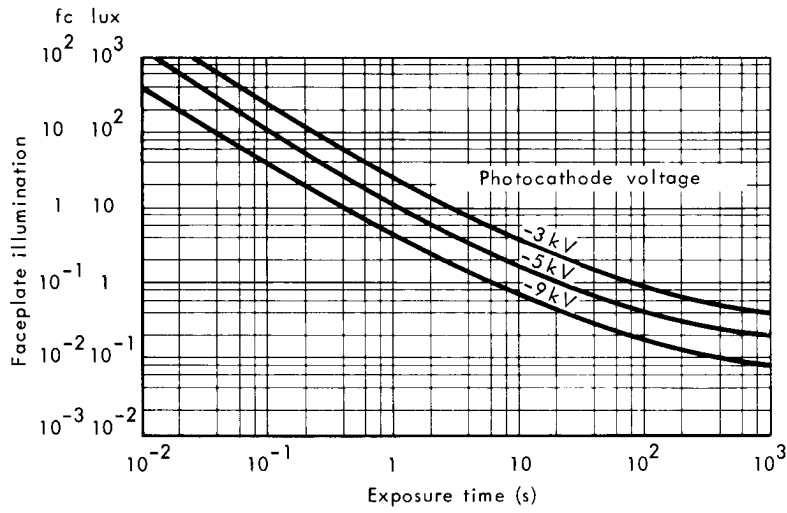

Fig. 1 - Maximum exposure levels
- 4 - The tube should not be operated at exposure levels greater than those given in figure 1\*.